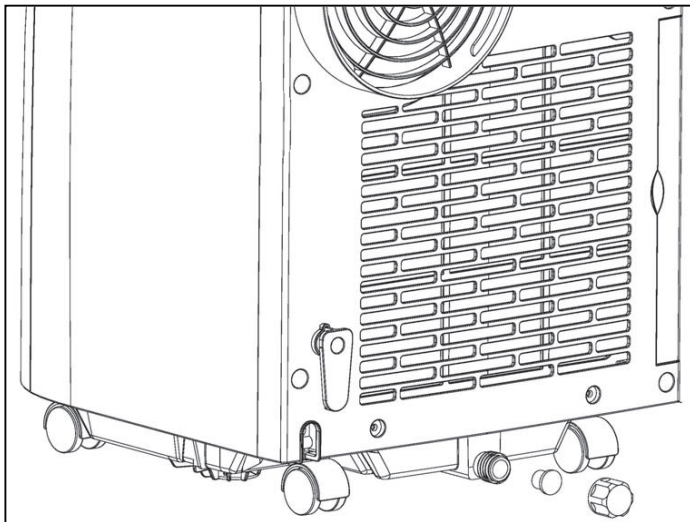

Fig.14
- Manually drain the water by moving the air conditioner to the site where the water can be drained directly (such as the toilet or a drain), unscrew the nut in the bottom rear of the unit and pull out the water plug. (as shown in Fig. 14)